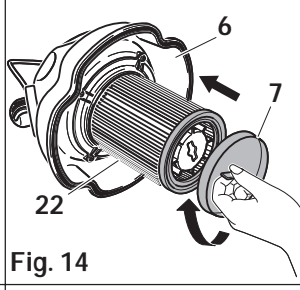

Fig. 14
- Insert the air filter (22) in its support pushing it all the way in (fig. 14).
- Place the filter cap lock cover to the filter (7) itself (22), and turn it in the direction of the arrow until it correctly attached (fig. 14) .